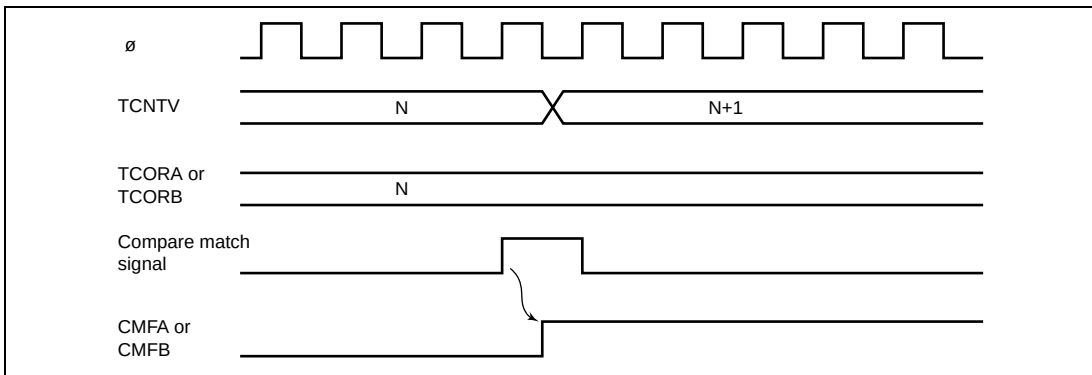

Figure 10-5 CMFA and CMFB Set Timing
3. TCNTV is constantly compared with TCORA and TCORB. Compare match flag A or B (CMFA or CMFB) is set to 1 when TCNTV matches TCORA or TCORB, respectively. The compare-match signal is generated in the last state in which the values match. Figure 10-5 shows the timing. An interrupt request is generated for the CPU when CMIEA or CMIEB in TCRV0 is 1.